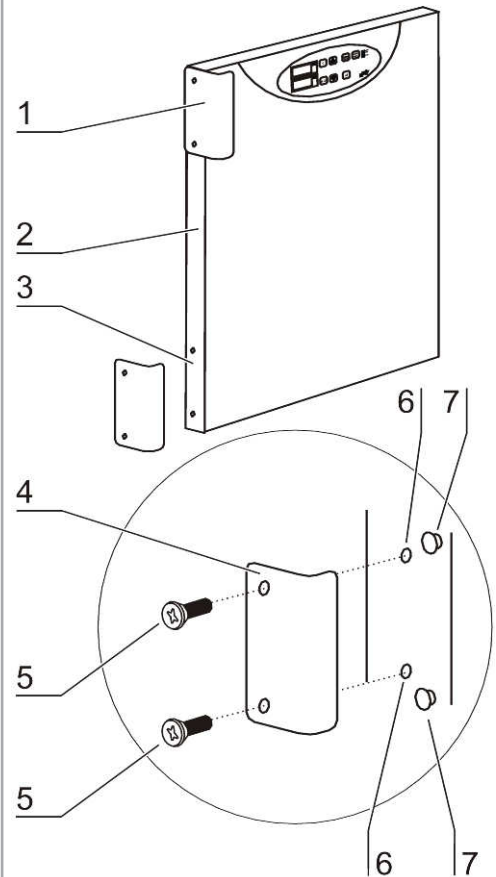

Fig. 11
**Fig. 11:** The door handle [4] can be installed to the face of the outer door [2] either at the upper position [1] or at the lower position [3]. Two holes are drilled in each position.